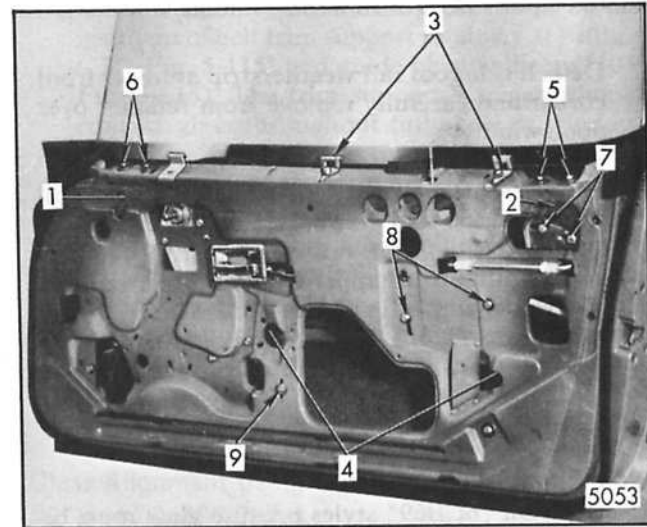
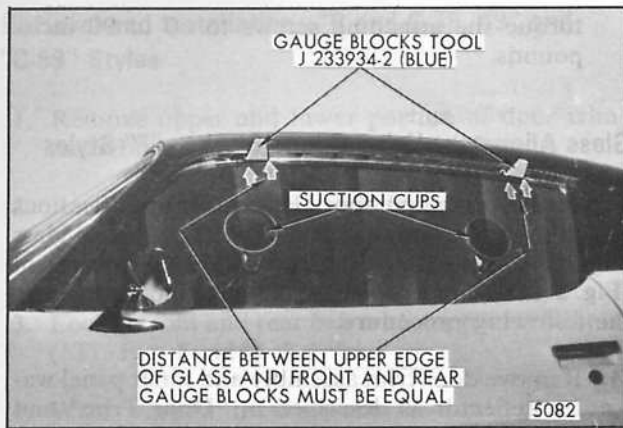
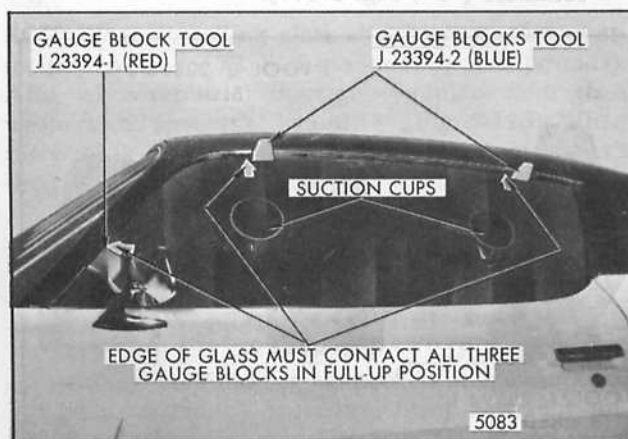

Fig. 5-117-Window Removal and Adjustment - "F" Styles
Fig. 5-119-Door Window - Rotated ("Cocked") Glass Alignment - "F" Styles
Fig. 5-120-Door Window - Fore and Aft Alignment - "F" Styles
1. **WINDOW NOT PARALLEL WITH SIDE ROOF RAIL WEATHERSTRIP** - A rotated window condition (glass cocked in opening) can be corrected by loosening front and rear up-travel stops ("1" and "2", Fig. 5-117) and inner panel cam screws ("8", Fig. 5-117) and raising or lowering front edge of glass in relation to rear edge of glass as required. Then tighten inner
2. **WINDOW TOO FAR INBOARD OR OUTBOARD ALONG UPPER EDGE** - Loosen upper ends of front and rear guides ("5" and "6", Fig. 5-117) and glass belt trim support retainers ("3", Fig. 5-117) and position guide inboard or outboard as required. Outboard adjustment of the guide moves the upper edge of the glass inboard. Conversely, inboard adjustment moves the upper edge of the glass outboard. With glass in a full-up position, position trim support retainers against inner surface of glass and tighten attaching screws. Torque all previously loosened hardware attachment components to 60 to 90 inch-pounds. Make sure that when glass is cycled, it does not come in contact with the blow-out clip.
3. **WINDOW TOO HIGH OR LOW IN UP POSITION** - Loosen front and rear up-travel stops ("1" and "2", Fig. 5-117) and operate window to desired position to establish proper glass to side roof rail weatherstrip contact. Position up-travel stops to contact stops on glass and torque up-travel stop screws to 60 to 90 inch-pounds.
4. **WINDOW TOO HIGH OR LOW IN DOWN POSITION** - Loosen down-travel bumper support ("9", Fig. 5-117) and lower or raise window to desired full-down glass height. Then position bumper support against lower edge of glass and torque attaching screw to 60 to 90 inch-pounds.
5. **WINDOW TOO FAR FORWARD OR REARWARD** - Loosen upper end of rear guide ("7", Fig. 5-117) and reposition glass as necessary. Because the roller assembly (bellcrank) which attaches to the glass at the front pivots, the front guide does not have to be adjusted during fore and aft window alignment. Torque guide attachments to 60 to 90 inch-pounds.
6. **WINDOW MECHANISM BINDS WHEN OPERATING** - Ease of window operation and window stability depends a great extent on the adjustment of the window belt trim support retainers at the beltline ("3", Fig. 5-117). The support retainers should contact the glass throughout the full cycle of the window. However, in some cases due to the slight variations in glass contour, the strip may lose contact with the glass halfway through the cycle. This is permissible provided it does not result in loose glass or restrict ease of window operation. After the belt trim support retainers have been adjusted,
3. With glass in a partially down position, install gauge blocks, tool J-23394-2 (blue) or equivalent, into side roof rail weatherstrip retainer above upper front and rear corners of the glass as shown in Figure 5-119. Then, install glass suction cups on interior surface of glass (Fig. 5-119) to enable adjuster to shift glass when making adjustments with door in a closed position.
NOTE: When installing gauge blocks (blue) or equivalent into upper retainer on "F" styles, handle portion of blocks must protrude outboard (Fig. 5-119). Also, grooves on sides of blocks must be fully engaged with side roof rail weatherstrip retainer.
4. Working from inside body, with door in a closed position, loosen front and rear up-travel stops ("1" and "2", Fig. 5-117) and belt trim support retainers ("3", Fig. 5-117).
5. Raise door window to approximately 1" from full-up position as illustrated in Figure 5-119. If distance (space) between upper edge of glass and front and rear gauge blocks is equal (as shown in Fig. 5-119), proceed with step 6. If distance (space) between upper edge of glass and both upper gauge blocks is not equal loosen inner pannel cam attaching screws ("8", Fig. 5-117) and adjust as necessary.
6. Lower glass and install gauge block, tool J-23394-1 (red), or equivalent into the windshield pillar retainer slightly above the beltline (Fig. 5-120).
If upper and forward edge of glass contacts all three gauge blocks at the same time (as shown in Fig. 5-120), proceed with step 7. If upper and forward edge does not contact all three gauge blocks simultaneously, loosen fore and aft adjustment on rear guide ("7", Fig. 5-117) and move glass forward or rearward until edge of glass contacts all three gauge blocks in full-up position.
7. Completely loosen upper and lower ends of front and rear guides ("5" and "6", Fig. 5-117). Apply firm outboard pressure against upper end of front guide to remove slack in system and to hold upper inner edge of the glass inboard against outer edge of tab on gauge block. Then tighten front guide upper, then lower attaching screws. Repeat operation with rear guide. Guides will now be coordinated to plane of glass.
8. With glass in full-up position against gauge blocks, tighten up-travel stops ("1" and "2", Fig. 5-117) and adjust belt trim support retainers ("3", Fig. 5-117) outboard for light contact.
2. Remove front and rear up-travel stops ("1" and "2", Fig. 5-117).
3. Loosen front and rear belt trim support retainers ("3", Fig. 5-117).
4. With window in three-quarter-down position, remove lower sash channel cam to glass attaching nuts ("4", Fig. 5-117). Remove window by lifting straight up and aligning rollers with notches provided in the door inner panel.